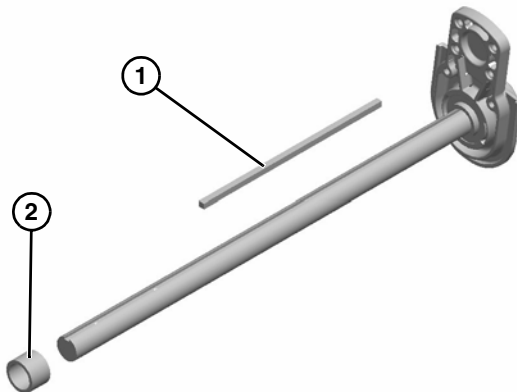

Figure 34
- Remove drive spindle key (Figure 34, item 1) and tube spacer (Figure 34, item 2).